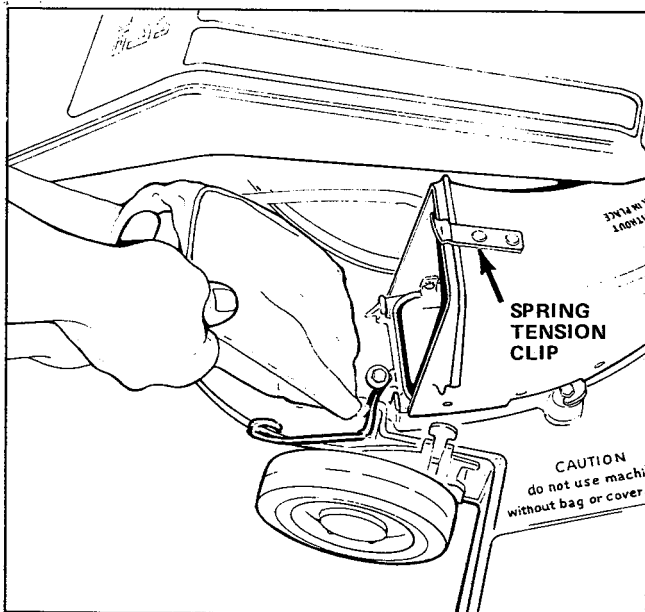

Figure 11. Attaching Grass Bag
7. Attach the grass bag to the grass chute by inserting the bottom of the bag reinforcing loop into the slots on the mower deck (see figure 11), and push the top of the reinforcing loop under the spring clip on the top of the grass chute.